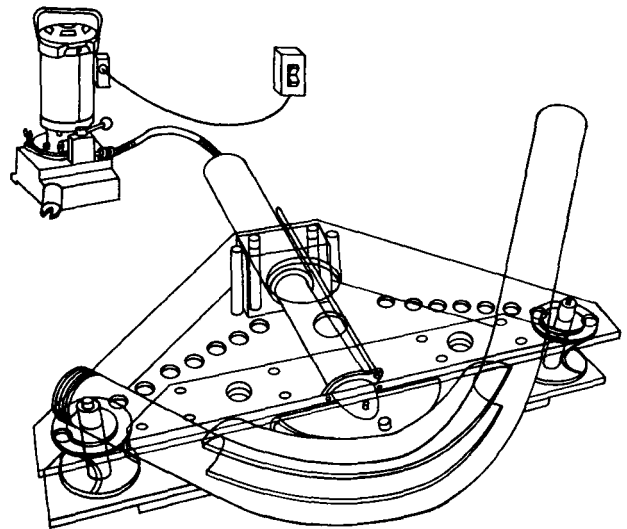

FIG. 6 R-4213 ONE SHOT CONDUIT BENDER
5.43 To set up the R-4213 Bender, proceed as follows, also see Figure 6.
- (1) To bring bending radii up to date. (Par. 5.12)
- (2) To include information on the new R-4213 Conduit Bender. PARS. 5.41 to 5.45 and Fig. 6.
- (3) To bring BSP references up to date and make minor changes throughout section.